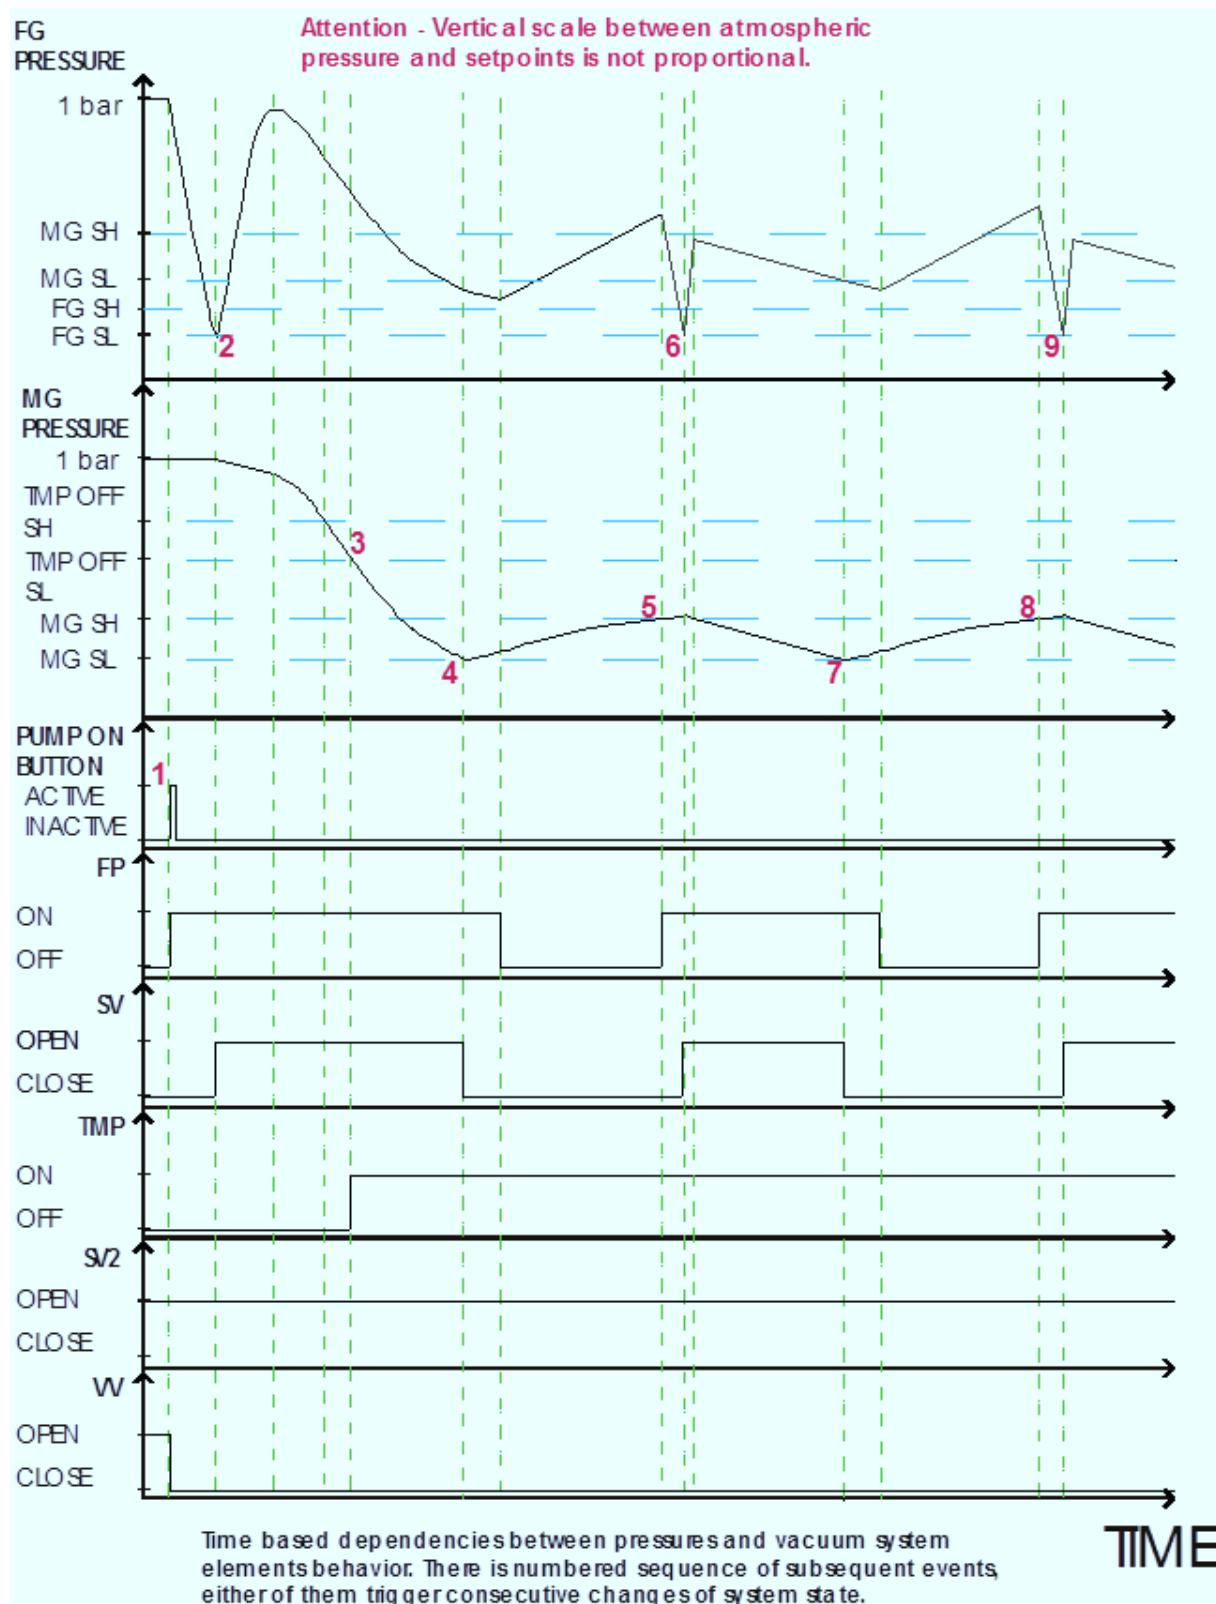

Figure 4.1: Operation process of the PCU16 in the T type configuration
13. The fore pump is turned on and the first safety valve is opened cyclically to maintain the MG setpoint in the tank. Operation of the system elements in the normal operation state is shown in Figure 4.1.